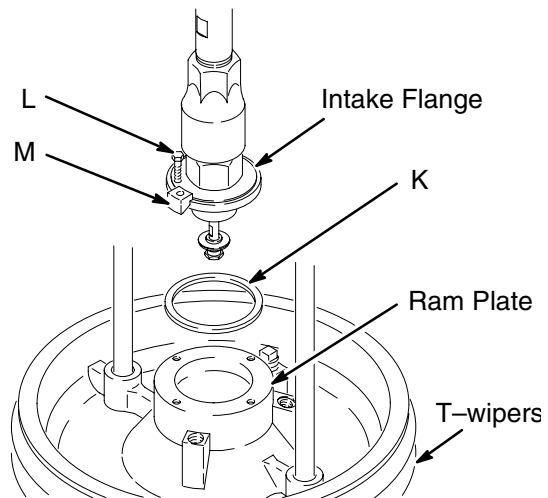

Fig. 2
1. Place the gasket (K) from Mounting Kit 222776 on the ram plate. See Fig. 2. Lower the pump onto the gasket and plate. Secure the pump's intake flange to the plate with the screws (L) and lugs (M) included in the mounting kit (used with CM2100, DF2400, and DF1800 pumps).
2. Position the mounting brackets (57) under the base of the air motor. See the Typical Installation on page 9. Attach the motor to the mounting brackets with the screws (27) and washers (26) provided.